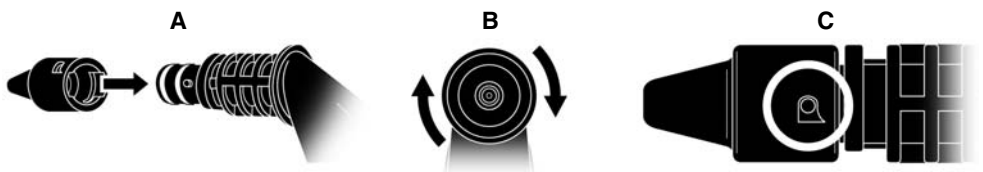

FIGURE 2
1. Align Brush or Nozzle Tip with Steam Jet Nozzle as shown (FIGURE 2-A). Make sure that two side pegs on tip of Steam Jet Nozzle align with grooves inside of Brush or Nozzle Tip.
2. Slide Brush or Nozzle Tip onto Steam Jet Nozzle, then rotate clockwise (when viewed from front) to lock in place (FIGURE 2-B). Side pegs on Steam Jet Nozzle will be visible through small holes in Brush or Nozzle Tip (FIGURE 2-C).